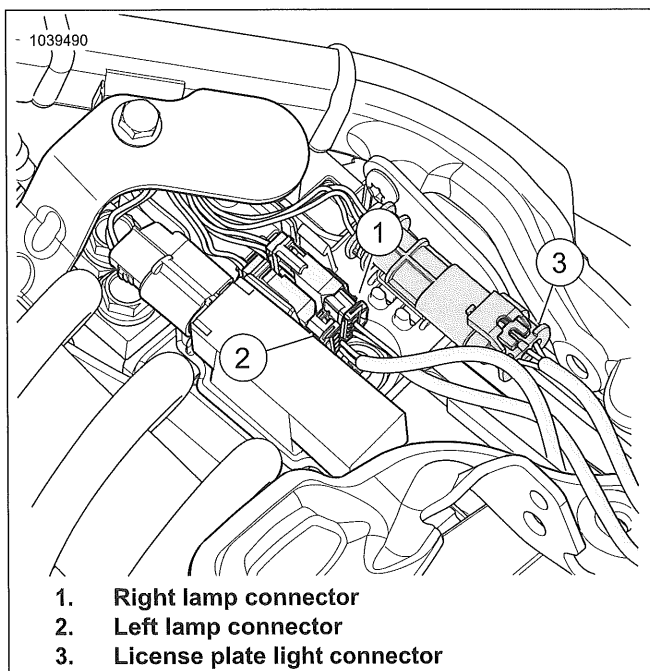
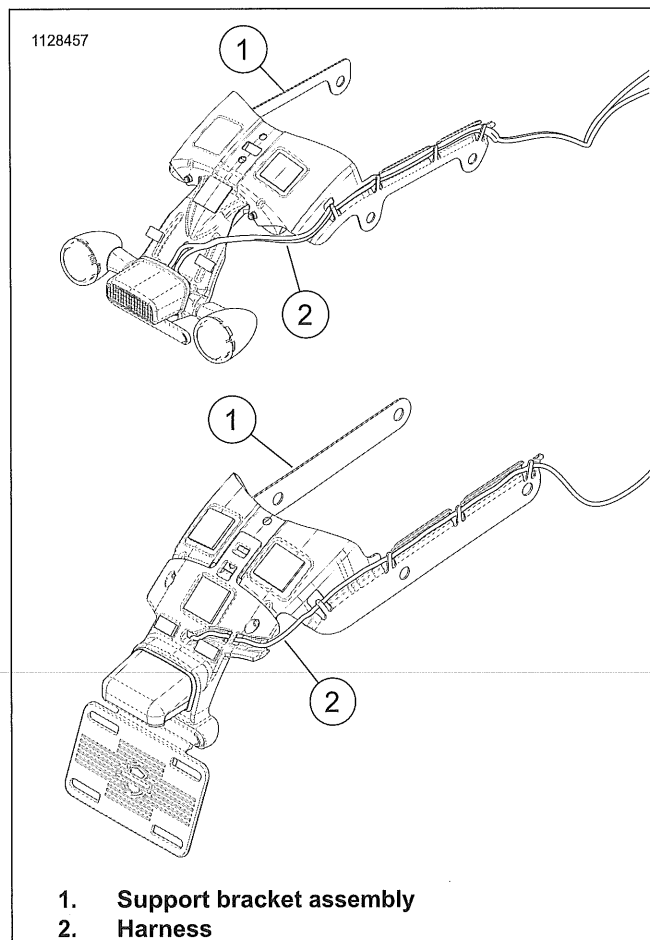

Figure 7-94. Turn Signal Lamp Connectors
Figure 7-95. Inner Fender Support Bracket
- See Figure 7-94. Disconnect connector (3).
- Disconnect pins from connector (3). See electrical diagnostic manual.
- See Figure 7-95. Remove harness (2) from support bracket assembly (1).
3. See Figure 7-95. Route harness (2) through support bracket assembly (1).